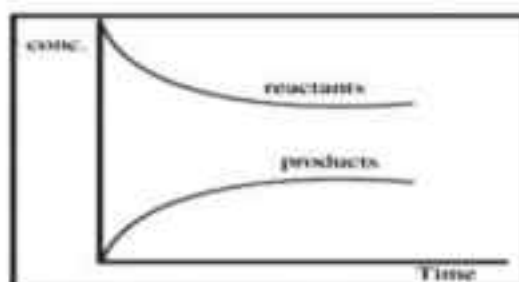

Fig :3-3
- (a) The small values of equilibrium constant ($K_c < 1$) mean that the result of multiplication of the product concentrations (nominator) is less than the result of multiplication of the reactant concentrations (denominator) each is raised to the power of the number of moles, which reveal that the reaction is not proceed well towards the formation of the products and that the reversed reaction has an effective role . (fig 3-3)